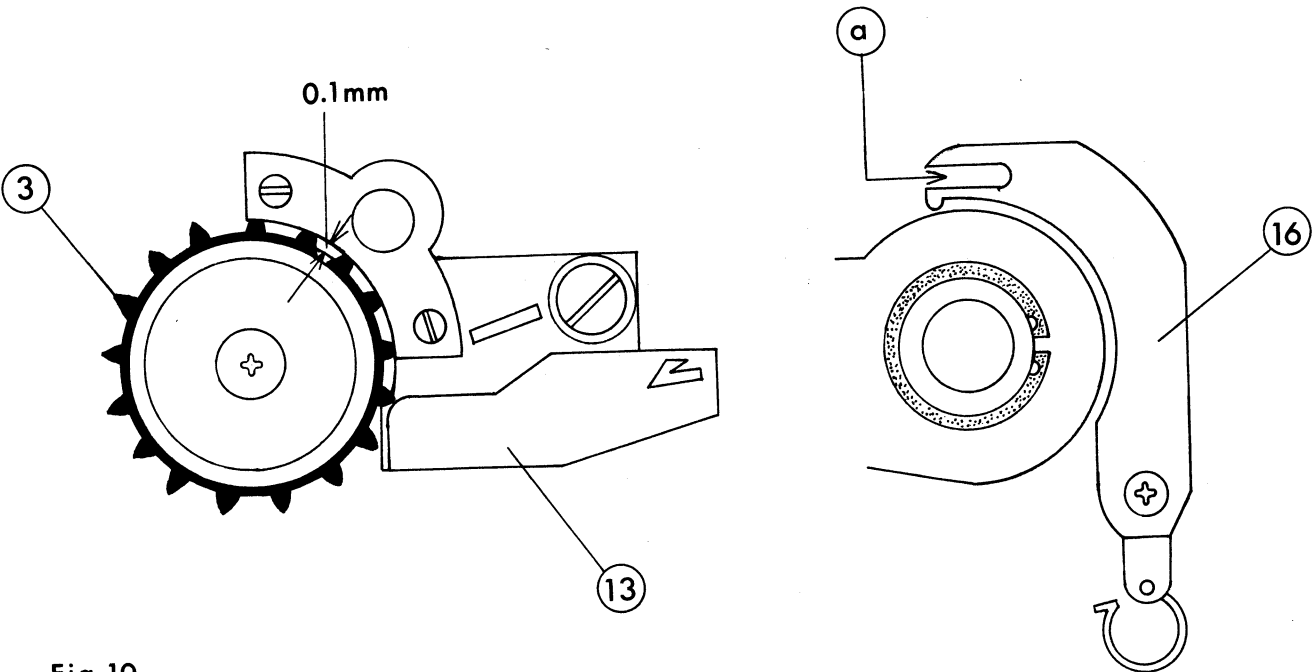

Fig 10
5. Check no flaws on (19) and attach it with (20).
6. Adjust the attaching position of 1st sprocket shoe assembly, (13) so that the clearance between the bottom land of super sprocket, (3) and the (13) may be at about 0.1mm. The adjustment point is "a" of Fig.10.